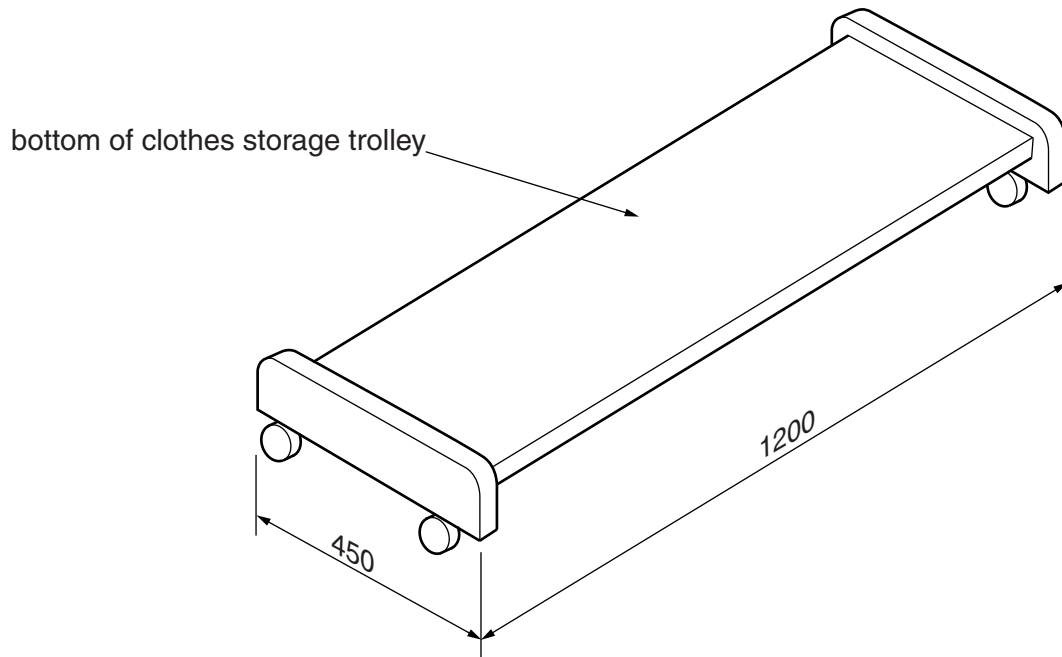

Fig. 8
- 8 Fig. 8 shows an incomplete idea for a mobile clothes storage trolley to be used at a p